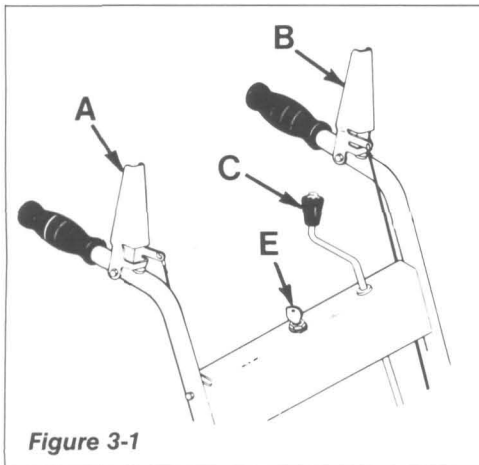
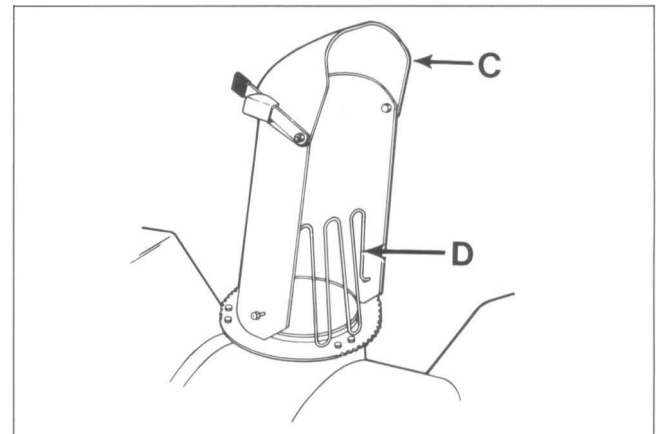

Figure 3-1
Figure 4-2
Auger Drive Control Lever (Figure 3-1, Item A)
Wheel Drive Control Lever (Figure 3-1, Item B)
Discharge Chute Control Crank (Figure 3-1, Item C)
Engine Ignition Keyswitch (Figure 3-1, Item E)
7. Check the discharge chute crank (Figure 3-1, Item C) for freedom of movement. Then adjust the discharge chute and deflector cap (Figure 4-2, Item C) to the desired direction and angle of discharge.
8. Make sure that the chute guard (Figure 4-2, Item D) is installed.
9. Check the handlebar control levers (Figure 3-1, Items A & B) for freedom of movement.